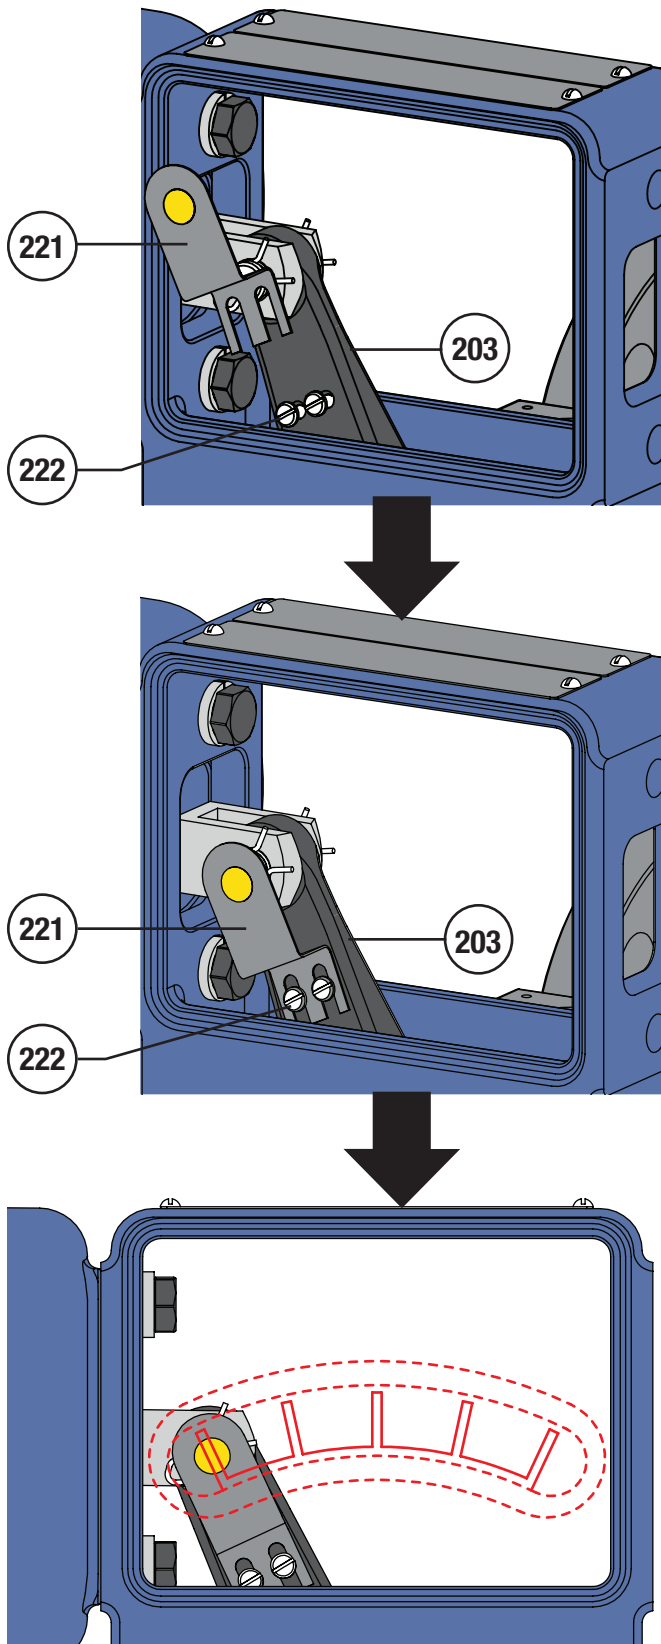

Figure 60 Travel Indicator Installation
- Reinstall the travel indicator (Key 221) using the machine screws (Key 222). **NOTE:** The position of the travel indicator may need to be adjusted slightly to align with the travel scale on the front cover (Key 223) once installed. Refer to Figure 60.
- 9 Reinstall the travel indicator (Key 221) using the machine screws (Key 222). **NOTE:** The position of the travel indicator may need to be adjusted slightly to align with the travel scale on the front cover (Key 223) once installed. Refer to Figure 60.